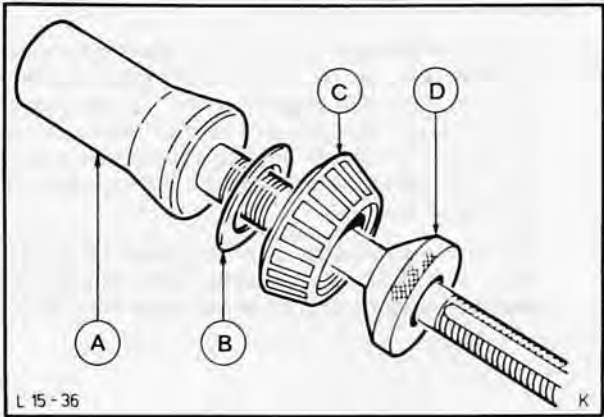

Fig. 68. Master pinion 15-020
- Slide removed shim (or a new shim of any thickness) onto the master pinion together with the inner taper roller bearing and secure with the conical nut, Fig. 68.